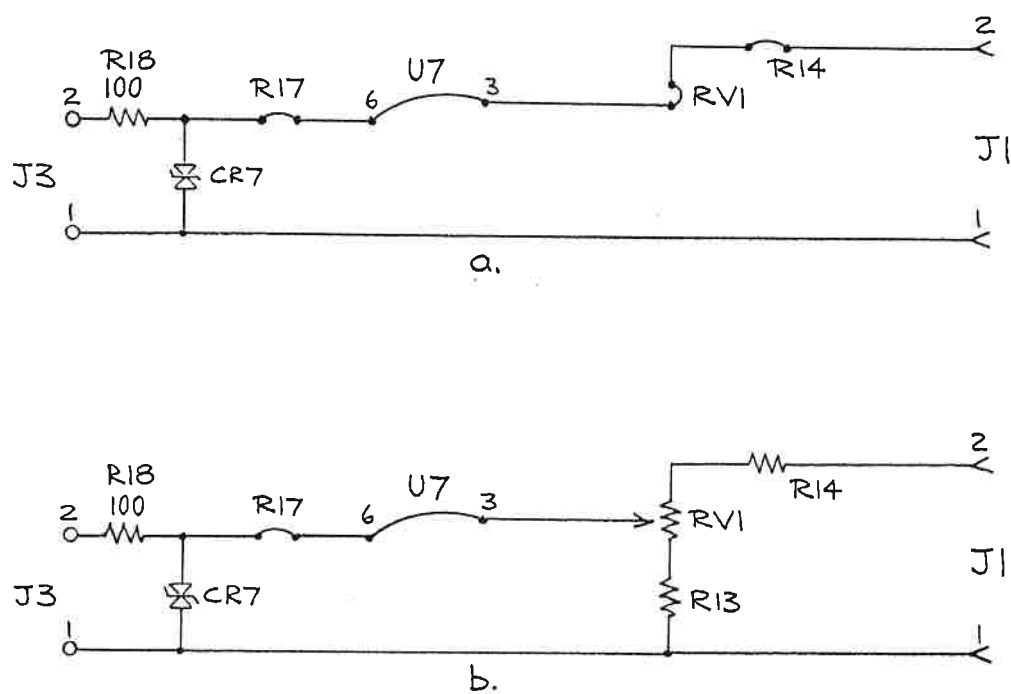

Fig. 9a,b. Configurable I/O Board Applications.
- a) Where the analog control output is to be used unmodified as delivered by the analog board, links are installed as indicated in Fig. 9a.